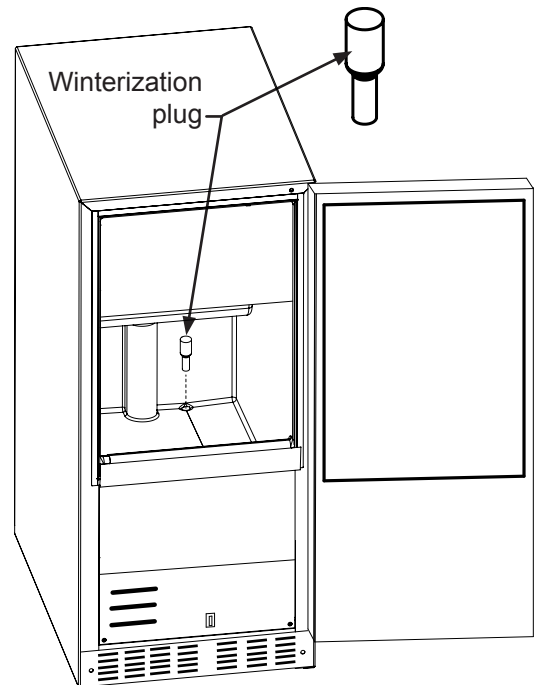

Figure 36
13. Install the winterization plug in the water drain hole inside the ice bin. (See Figure 36).